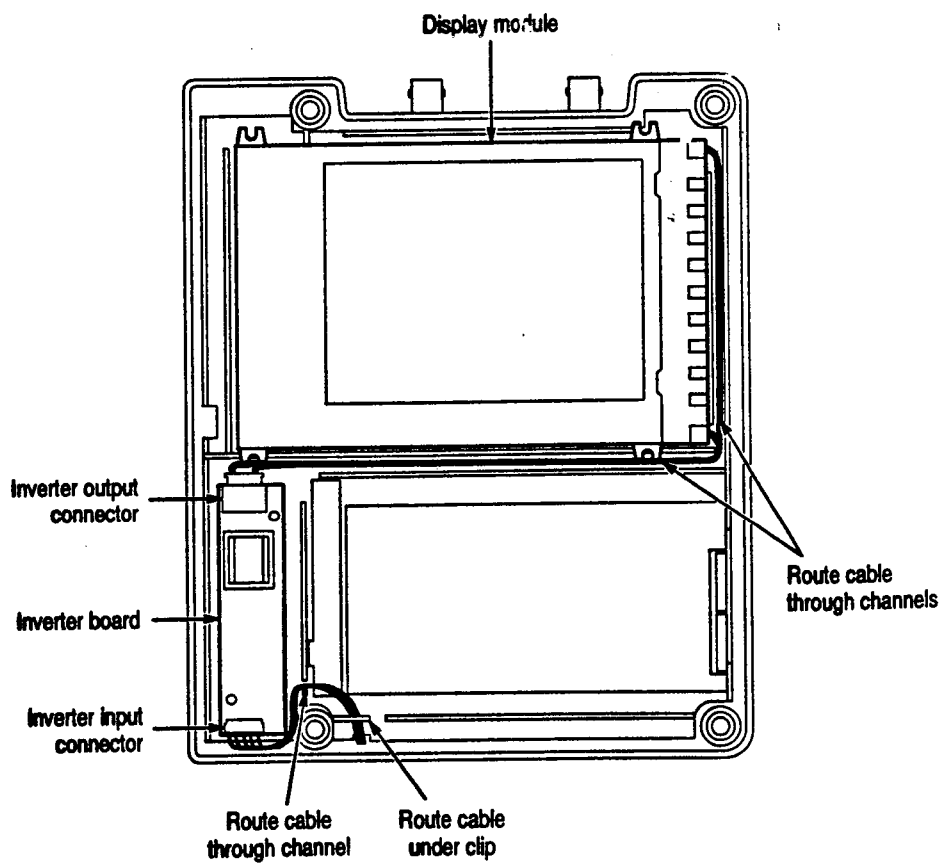

Figure 3: Routing cables to the inverter board
2. To remove the backlight/inverter board, unplug the input and output connectors and then lift the inverter board off the two guideposts. You may want to use the $\frac{1}{8}$ inch flat-bladed screwdriver to help release the connectors from their sockets. Discard the backlight/inverter board. See Figure 3.
7. Plug the cable from the display module into the Backlight/Inverter board and then route the cable in the channels as shown in Figure 3.
8. Reconnect the connector to the bottom of the Backlight/Inverter board and route the wires as shown in Figure 3.